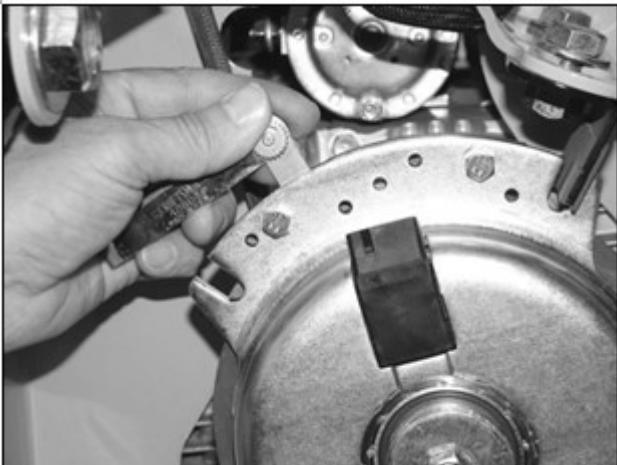
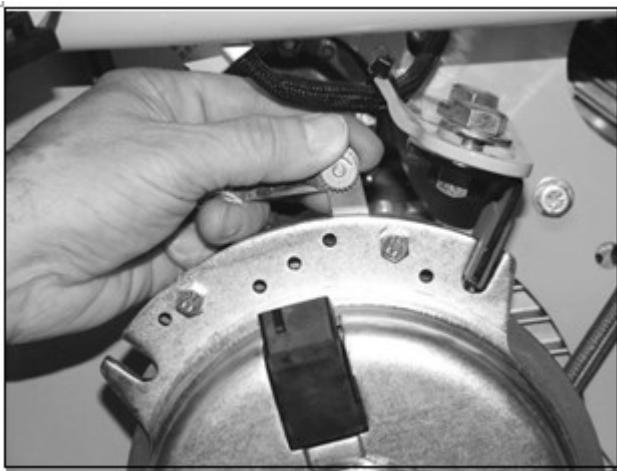

Figure 28
Figure 29
5. Using a .015" thick feeler gage, verify that a gap is present between the rotor and armature face on both ends of the brake pole as shown. [Figure 28] and [Figure 29]